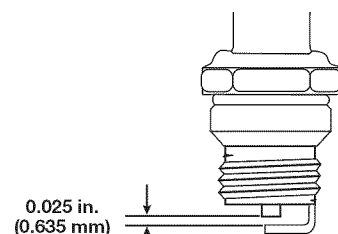

Fig. 28
4. Replace cracked, fouled or dirty spark plug. Set the air gap at **0.025 in. (0.635 mm)** using a feeler gauge (Fig. 28).